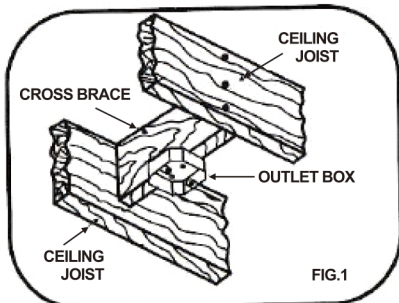

FIG.1
3. For installing to outlet box, secure the outlet box directly to the building structure. Use appropriate fasteners and building materials. The outlet box and its support must be able to fully support the moving weight of the fan (at least 100lbs). Use a UL listed metal outlet box. Do not use a plastic outlet box. Figure 1 & 2 examples to mount the outlet box.